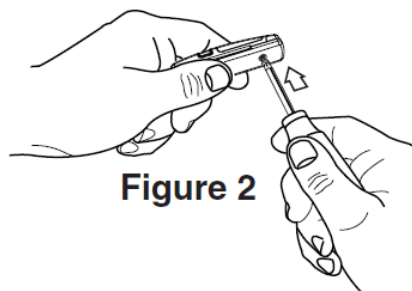

Figure 2
2. Push on the screw with the screw driver. (Figure 2)